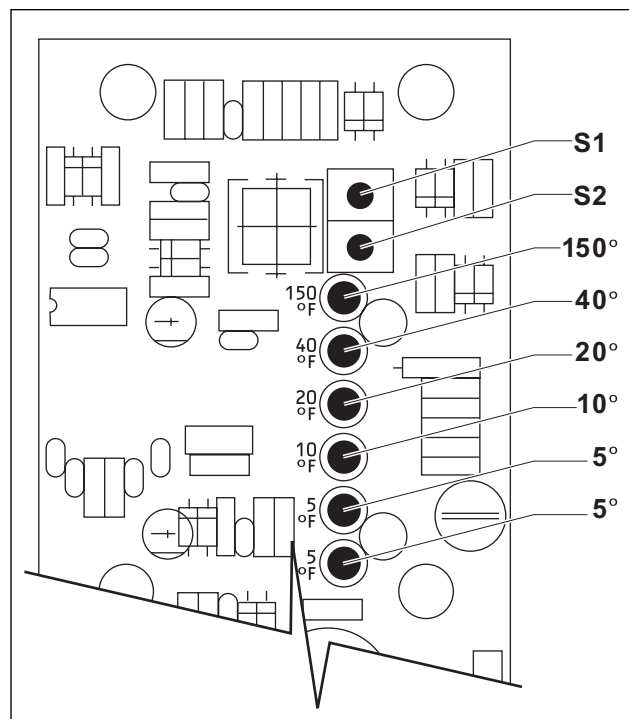

Figure 16. Rear of FWM Control
2. Locate the pushbuttons S1 and S2 on the rear of the FWM Control (see Figure 16).